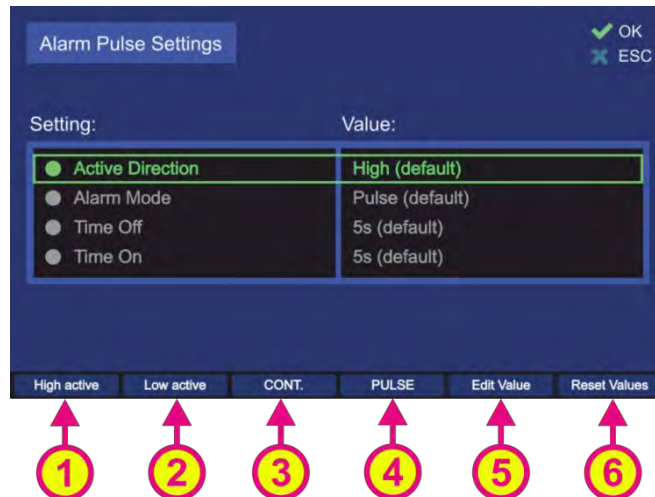
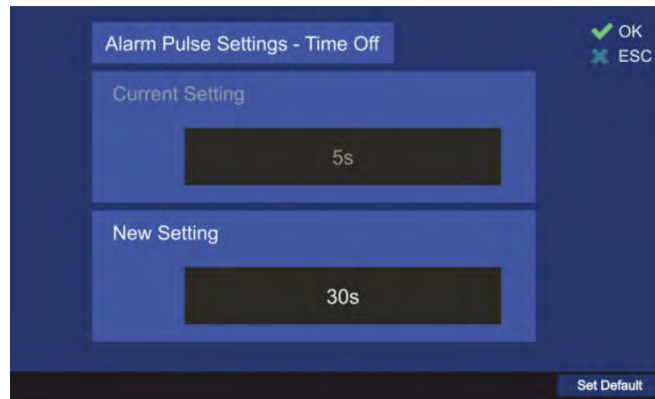
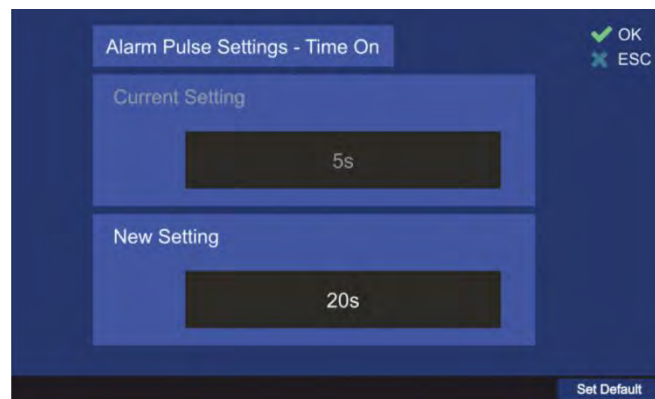

Fig. 107 Alarm pulse settings
Fig. 110 Time off Dialog
Fig. 111 Time on Dialog
In this dialog pressing “OK” will be interpreted as confirming of the whole set of settings that are currently displayed, which will lead to closing the dialog confirming changed values. To change the single settings only the hotkeys for modifying the related values are used (s. Fig. 107).
**Active direction** setting defines which direction (low or high) will lead to an alarm indication. This setting is changeable using the hotkeys “High active” / “Low active” or “Edit Value” (s. Fig. 107, numbers 1, 2 and 5), whereat using the first two hotkeys will change the value without opening the separate dialog.
This setting is changeable using the hotkeys "CONT." / "PULSE" or "Edit Value" (s. Fig. 107, numbers 3, 4 and 5), whereat using the first two hotkeys will change the value without opening the separate dialog.
- To change the "Time Off" - time, press the hotkey "Edit Value" (s. Fig. 107, position 5). The related dialog will open (s. Fig. 110).
- To change the “Time On”- time, press the hotkey “Edit Value” (s. Fig. 107, position 5). The related dialog will open (s. Fig. 111).